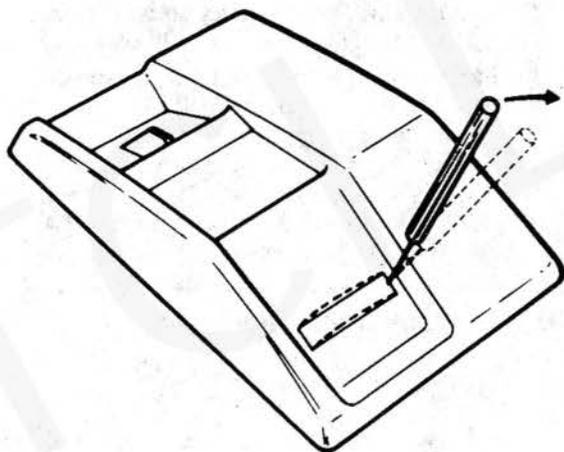

Fig. 3 — Removal of Card Retainer
- (1) Remove card retainer (or window) located near the front of the housing. By inserting the tip of an NS-16750L3 releaser into the small slotted hole at the edge of the window. Ensure that the tip does not enter the hole by more than  $\frac{1}{8}$  inch as an underlying screw may hinder the lateral movement of the tool. Apply slight lateral pressure to the handle of the tool (Fig. 3). This bows the window upward so that its edges may be grasped with the finger tips of the other hand to spring it out.
- (2) Remove the number card, if present.
- (3) Loosen the exposed captive screw sufficiently so that the front of the housing can be lifted free of the base.
- (4) Continued lifting of the cover disengages the housing latches and frees the cover.